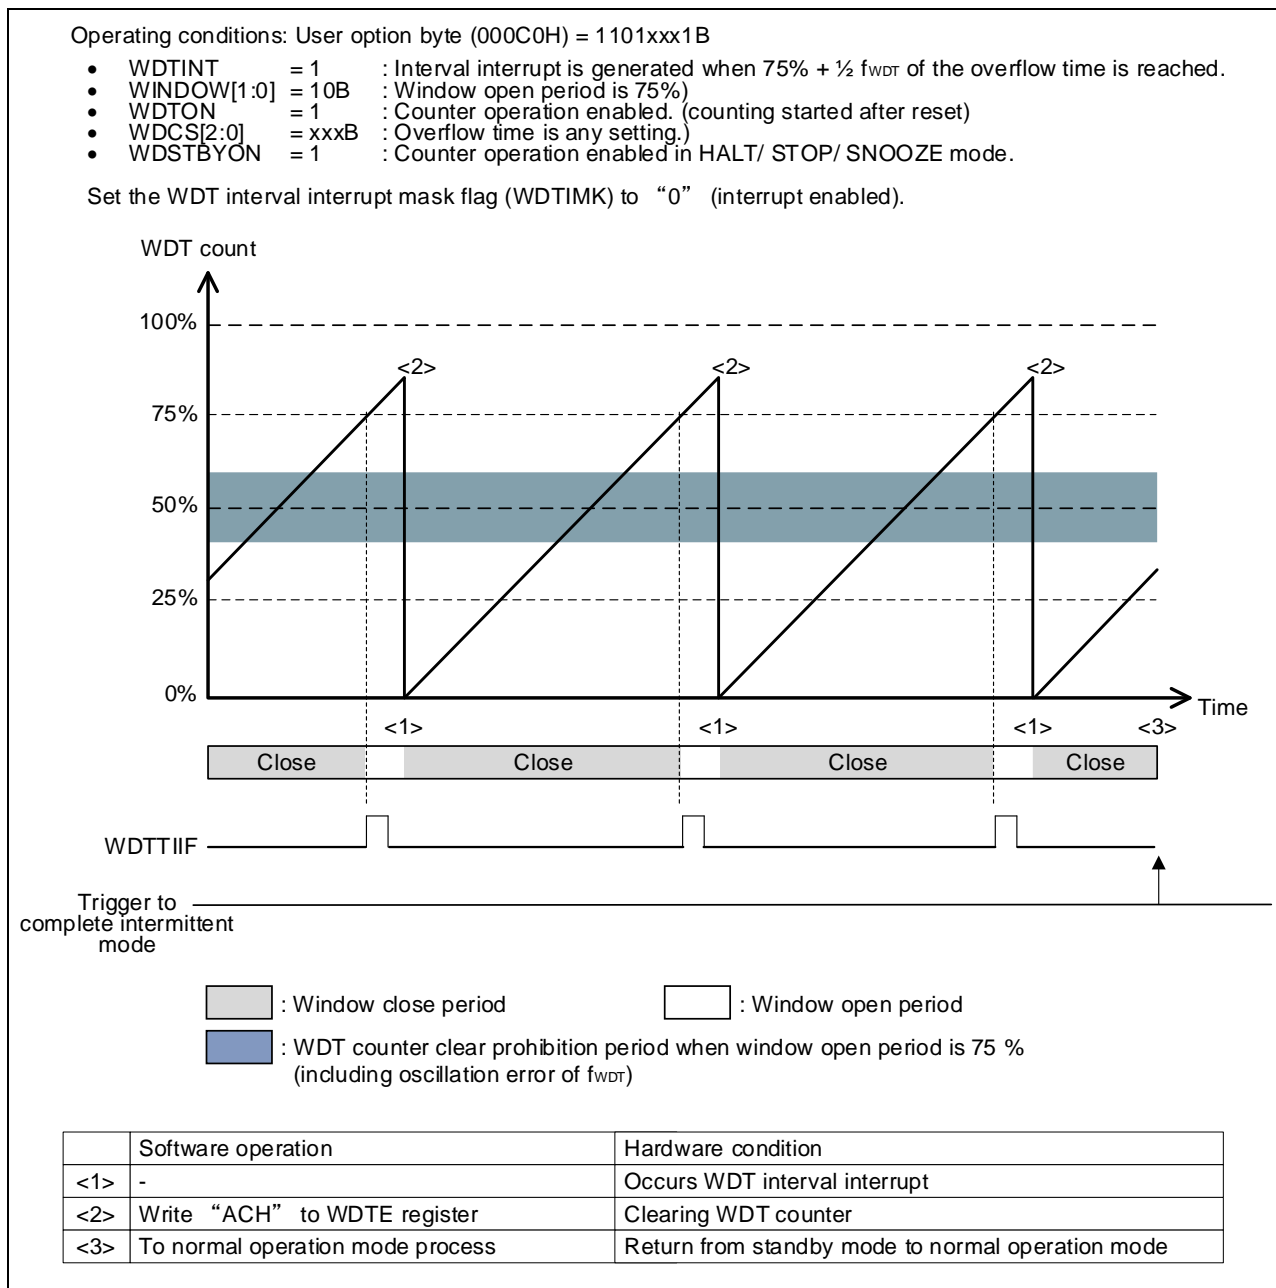

Figure 15-2 Processing Example When Using the WDT Function
- (1) When the window open period of watchdog timer is set to 75%, the processing to avoid the window close period and clear the counter. Table 15-1 shows the watchdog timer counter clear prohibition period when the window open period is set to 75%, and Figure 15-2 shows a processing example that the processing to avoid the window close and clear the counter in standby mode (intermittent operation).
Figure 15-2 shows a processing example that returning from standby mode to normal mode by the WDT interval interrupt and clear the WDT counter (write “ACH” to the WDTE register).